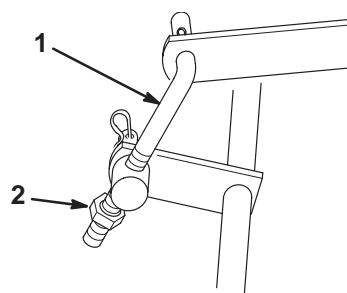

Figure 15
- To adjust the front-to-rear blade slope turn the locknut on rear adjustable link (Fig. 15).